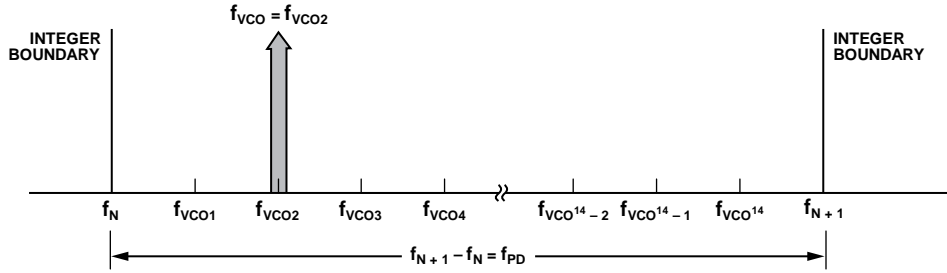

Figure 26. Exact Frequency Tuning
f_{VCO} is the channel step frequency, $0 < k < 2^{24} - 1$, as shown in Figure 26.
related to the interval frequency ($f_{VCOk} - f_{VCO(k-1)}$) in Figure 26. Consequently, the shortened accumulator results in more frequent repeating patterns and, as a result, often leads to spurious emissions at multiples of the repeating pattern period, or at harmonic frequencies of $f_{VCOk} - f_{VCO(k-1)}$. For example, in some applications, these intervals may represent the spacing between radio channels, with the spurious occurring at multiples of the channel spacing.
When multiple, equally spaced, exact frequency channels are needed that fall within the same interval (that is, $f_N \leq f_{VCOk} < f_{N+1}$) where f_{VCOk} is shown in Figure 26 and $1 \leq k \leq 2^{14}$, it is possible to maintain the same Integer N register (Register 0x03) and exact frequency register (Register 0x0C) settings and only update the fractional register (Register 0x04) setting. The exact frequency channel mode is possible when Equation 17 is satisfied for at least two equally spaced adjacent frequency channels, that is, the channel step size.
To configure the ADF5610 for exact frequency channel mode, initially and only at the beginning, the Integer N register (Register 0x03) and exact frequency register (Register 0x0C) must be programmed for the smallest f_{VCO} frequency (f_{VCO1} in Figure 26). Calculate and program the integer register setting by
where f_{VCO1} is shown in Figure 26 and corresponds to the minimum channel VCO frequency. Then, the lower integer boundary frequency is given by $f_N = N_{INT} \times f_{PD}$.
f_{VCO1} , as shown in Figure 26, represents the smallest channel VCO frequency that is greater than f_N .
- To change from Channel 1 ($f_{VCO1} = 2800.2$ MHz) to Channel 2 ($f_{VCO2} = 2800.3$ MHz), only Register 0x04 must be programmed, as long as all of the desired exact frequencies (f_{VCOk} , see Figure 26) fall between the same Integer N boundaries ($f_N < f_{VCOk} < f_{N+1}$). In that case,